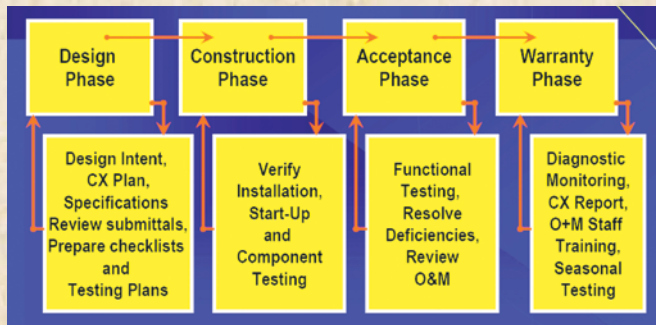

Figure 1 : The commissioning process.
Usually there is a single commissioning agency (CA) that takes care of both, fundamental and enhanced commissioning of the building. The entire process is illustrated for the easy reference of readers in *Figure 1*.